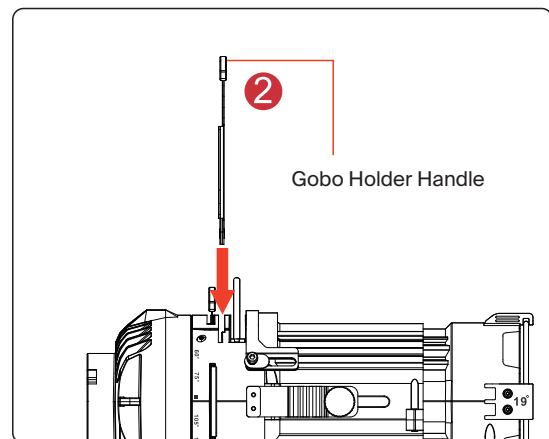

Figure 7
- 2) Insert the Gobo Holder into the Gobo Slot on the Spotlight Mini, as shown in **Figure 7**.